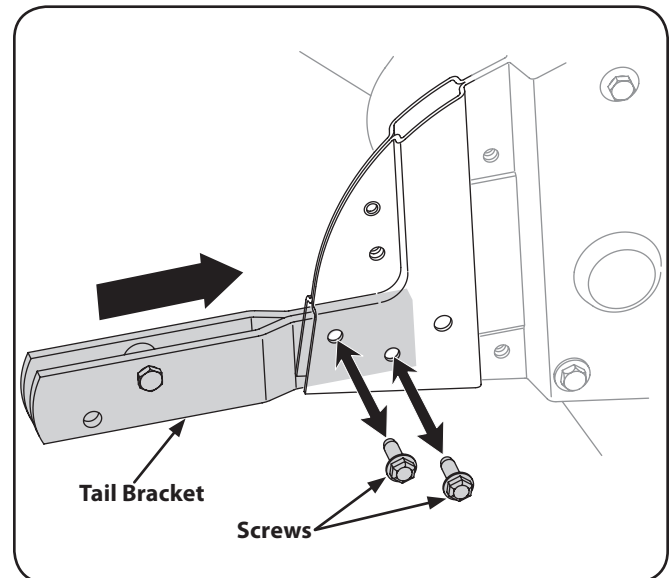

Figure 3-6
- Remove the two screws from the tail bracket as shown in Fig. 3-6.
- Insert the depth gage bracket into the frame and reinstall the two screws removed earlier. Tighten the hex bolts securely. See Fig. 3-6.